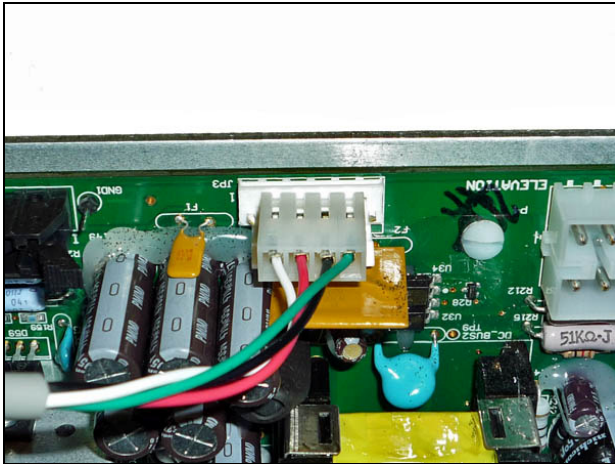
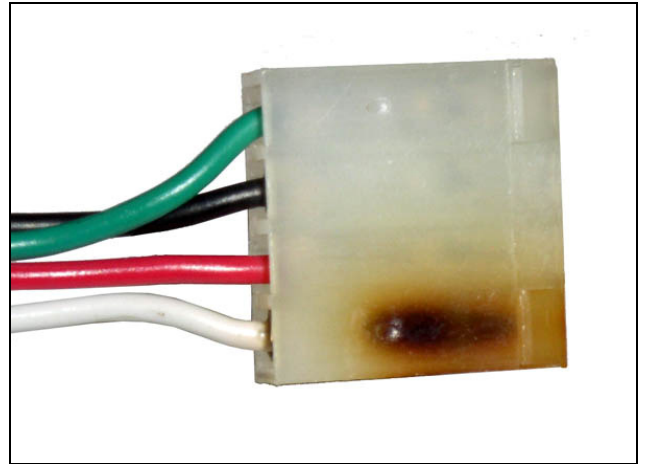

Fig. 7
Fig. 8
1. Visually inspect the power cable connection at the MCB (Fig. 7). Check for burned or charred marks on the plastic connector (Fig. 8).